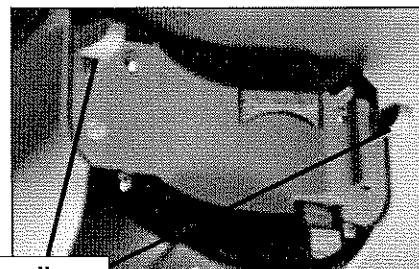

FIG. 4-9 Install rear cover.
- Install rear cover. The rear cover is the same color as the power head clips and body (Fig. 4-9).